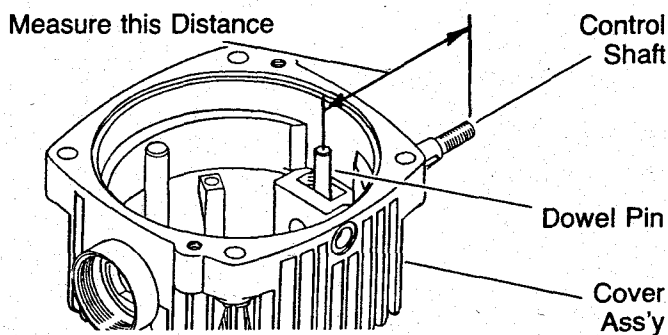

Fig. 20
**35** Measure the distance between center of dowel pin and the end of the shaft as shown in Figure 20.